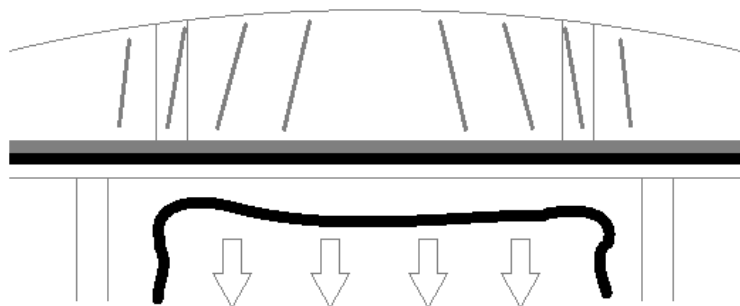

Fig109
- **STEP 1:** At one end of the polytunnel, trap the polythene tight up to the rebate with a pre-nailed batten in the centre of the lintel for approximately 12 inch either side of centre – The polythene should be smooth along this 2ft length with no creases (**Fig109**).